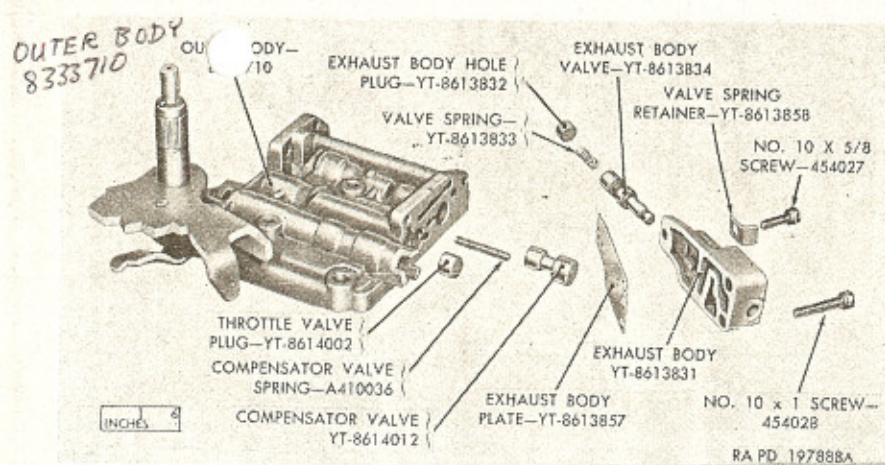

Figure 62. Exhaust body and compensator valve removed from control valve outer body.
- a. Install compensator valve spring (L) and compensator valve (J) in outer body (M). Install throttle valve plug (K) (fig. 62).